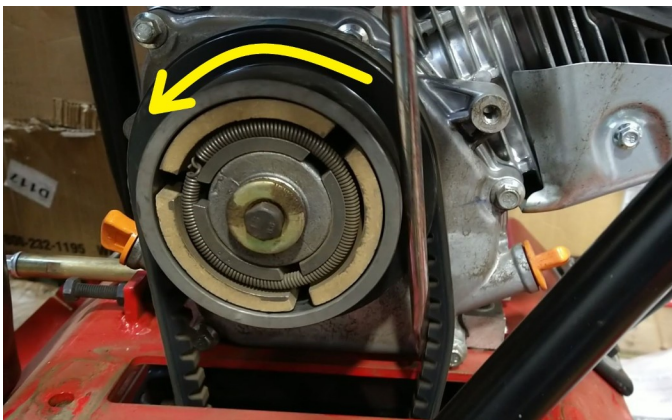

Fig. 4: Removing the belt (1).
4. With the screwdriver shaft positioned on the outside of the clutch, position the tip under the belt, and lever the belt off the clutch while turning the clutch counterclockwise (Figs. 4 & 5).
13. Reposition the engine assembly and support plate on the shock absorbers. Thread the belt through the slot in the support plate. Tip the engine assembly up and install the belt on the clutch pulley (see Fig. 4). Tip the assembly down and use a socket or wrench to tighten the lock nuts removed in step 6.